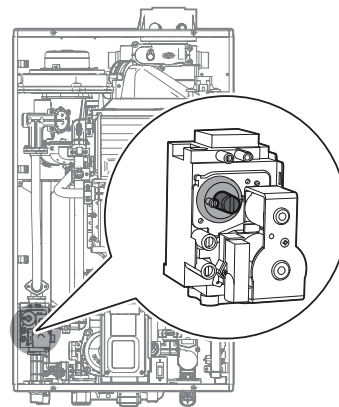

Figure 8. Set Screw Location
- c. Fully open several hot water fixtures and set the water heater to operate at 1-stage MIN mode (refer to page 38). Measure the CO₂ value at low fire. If the CO₂ value is not within 0.5% of the value listed in Table 2, the gas valve set screw will need to be adjusted. If adjustment is necessary, locate the set screw as shown in Figure 8. Using a $\frac{5}{32}$ in or 4 mm Allen wrench, turn the set screw no more than $\frac{1}{4}$ turn clockwise to raise or counterclockwise to lower the CO₂ value.